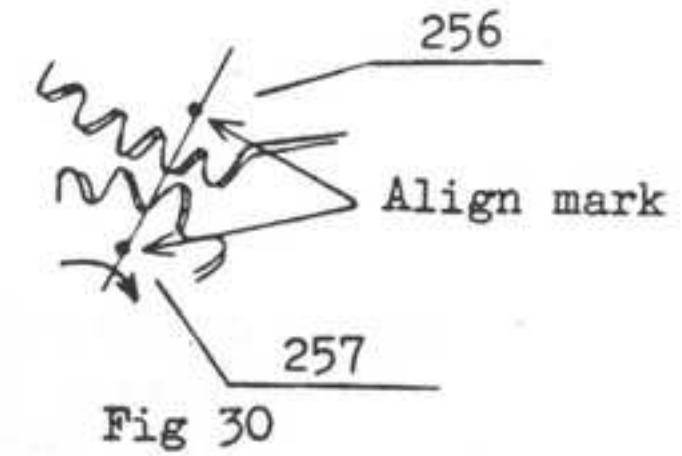
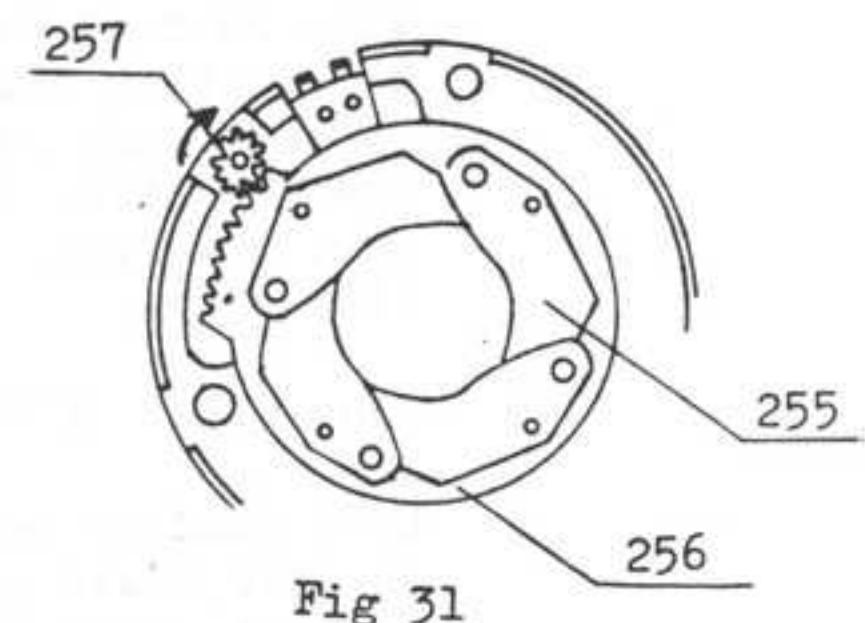

Fig. 30
Fig. 31
Insert Diaphragm gear shaft (257) into Shutter case (258). Put Diaphragm drive plate (256) in, interlocking its gear part with that of Diaphragm gear shaft (257). Turn Diaphragm gear shaft (257) fully in the direction of an arrow. (Fig. 30) Build 4 Diaphragm blades (255) as shown in Fig. 31, adjust their aperture to match the opening of Diaphragm drive plate (256), place Diaphragm hold (254) on and fix them with Shutter set lever screws (253).